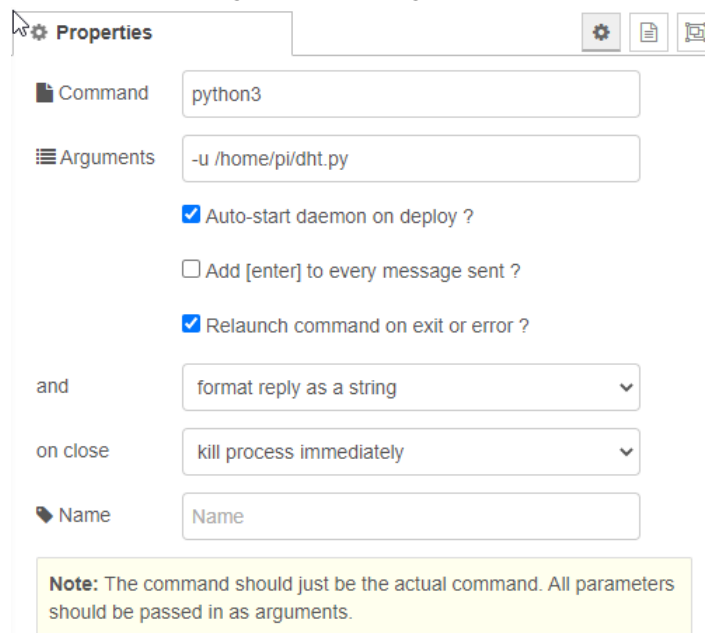

Figure 2.4: Node Settings
19. Drag the **daemon** node from the sidebar to the workspace area. Double click on it, this will open the properties window, **configure** it as you see in Figure 2.4.